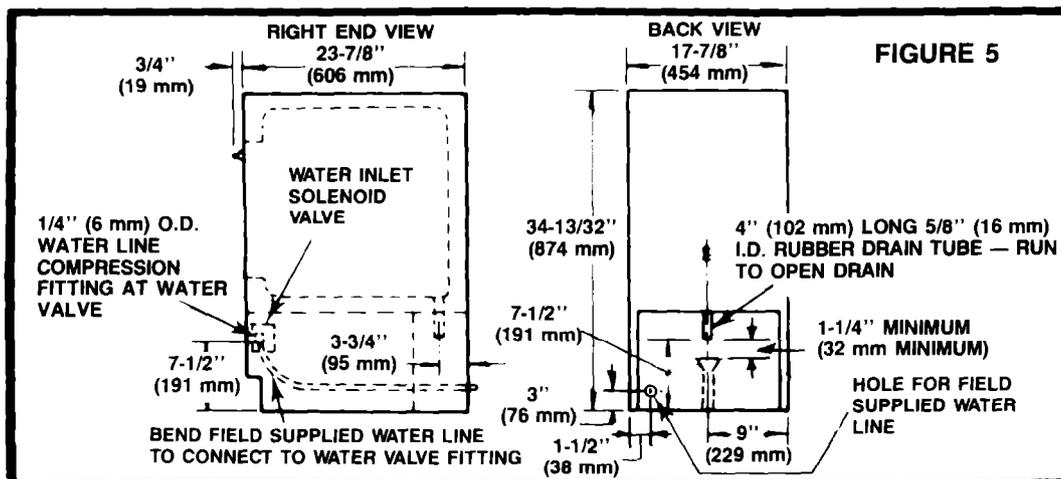

FIGURE 5
- 3 Position the tubing so it can enter the access hole located in the right-hand rear of the cabinet. The tubing should extend beyond the cabinet front when the cabinet is pushed back into position. See Figure 5.
- 2 The ideal installation has a standpipe 1-1/4" (32 mm minimum) installed directly below the outlet of the drain tube. Refer to Figure 5 for the proper location of the standpipe.